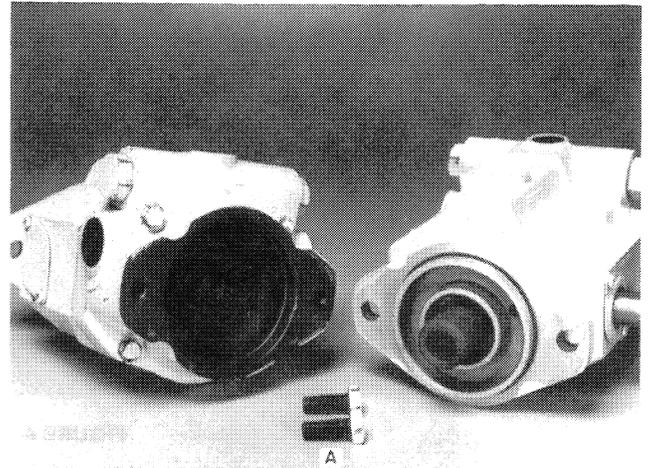
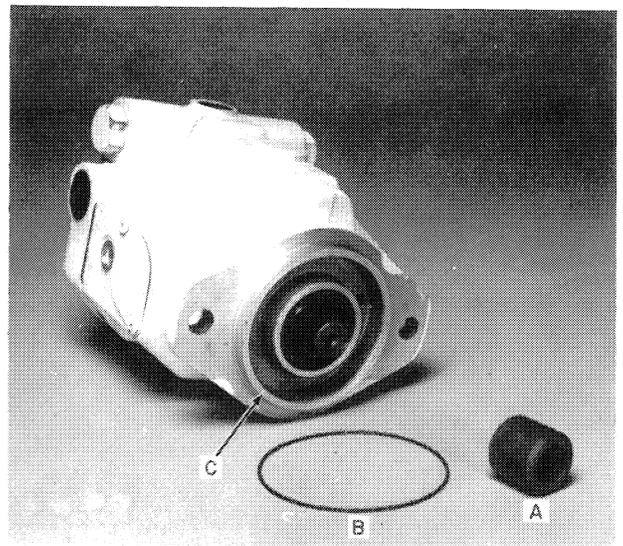

FIGURE 4-2
FIGURE 4-3
4. Remove two bolts, A, Figure 4-2, and tap the housings with a plastic or rubber mallet to separate the two pumps. The pumps are coupled with coupler, A, Figure 4-3, which will remain on one of the splined shafts. O ring, B, Figure 4-3, fits over flange, C, and should be replaced on reassembly.